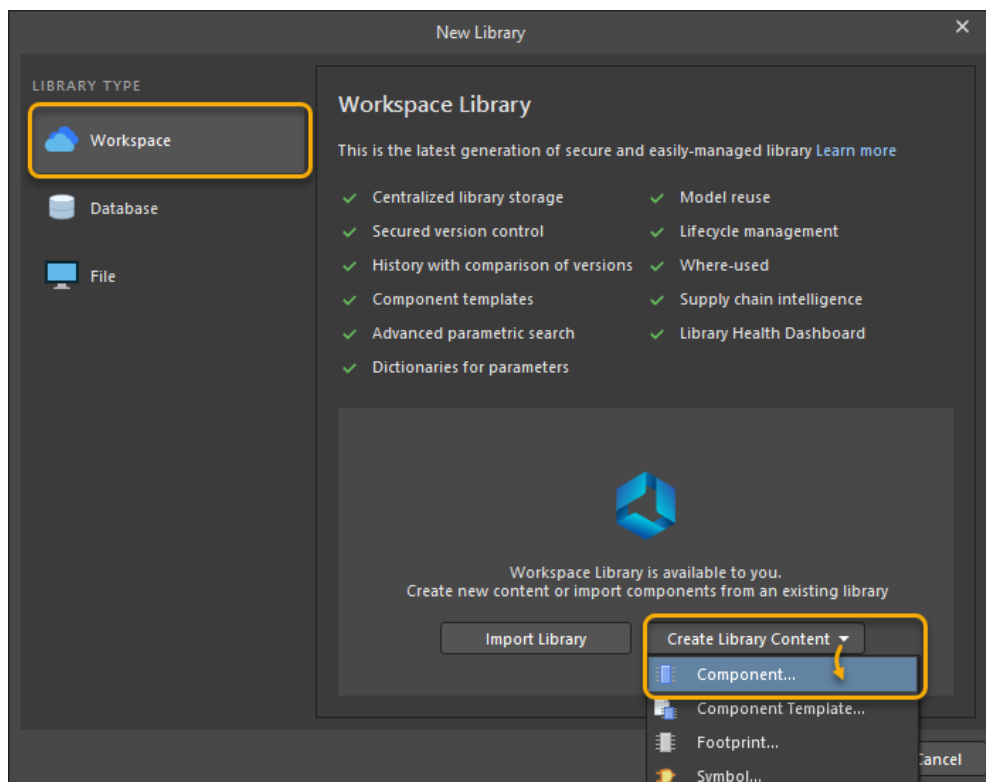

Figure 2. New Library - Create Component in Workspace
3. Alternatively, select **File » New » Library...** from the main menus. In the *New Library* dialog that opens, select **Create Library Content » Component...** from the **Workspace** region of the dialog, Figure 2.